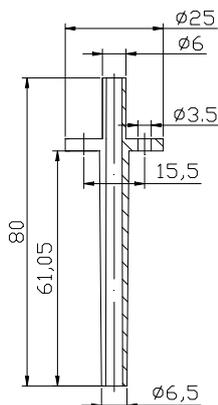
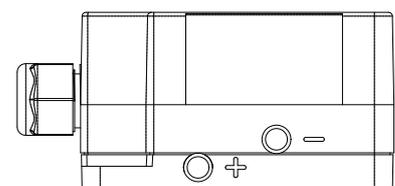

Fig. 2 Accessory 1003
Fig. 4
(1) Insert the 2 pressure connection parts as Fig. 2 or 3 with the longer side (60mm) into the prepared holes. Each part should be installed with 2 screws. Be sure to seal the holes after installing to keep the holes airtight.
(2) Connect the plastic tube. The standard accessory is 2m long with inner $\phi 6\text{mm}$. Cut the tube as short as possible to connect the ports "+" & "-" on the switch and the other side of accessory of 1003 or 1009 as Fig. 2 or 3. "+" is high port on the bottom of the switch and "-" is low port on the switch body as Fig. 4.
(3) After connecting the tube, please check if the connection is tight. And it should be inspected during daily maintenance. The switch can not work correctly if it is leaking.